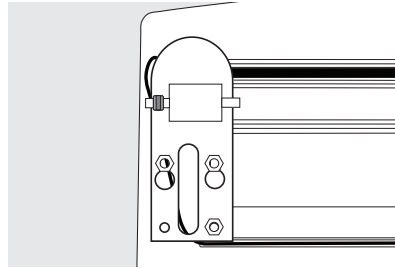

Figure 7
18. Remove the left bottom hinge using 5/16" (8 mm) wrench and install on the right side. Figure 7.